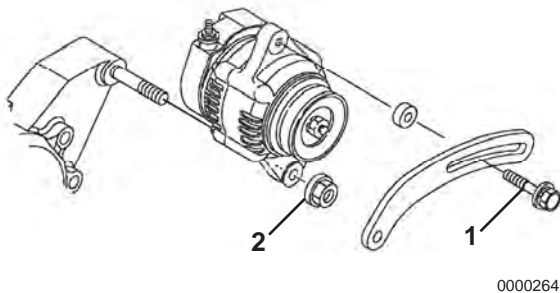

Figure 11-4
3. Remove the V-belt adjuster from the alternator bolt (**Figure 11-4, (1)**).
4. Remove the nut (**Figure 11-4, (2)**) from the gear case stud. Remove the alternator.